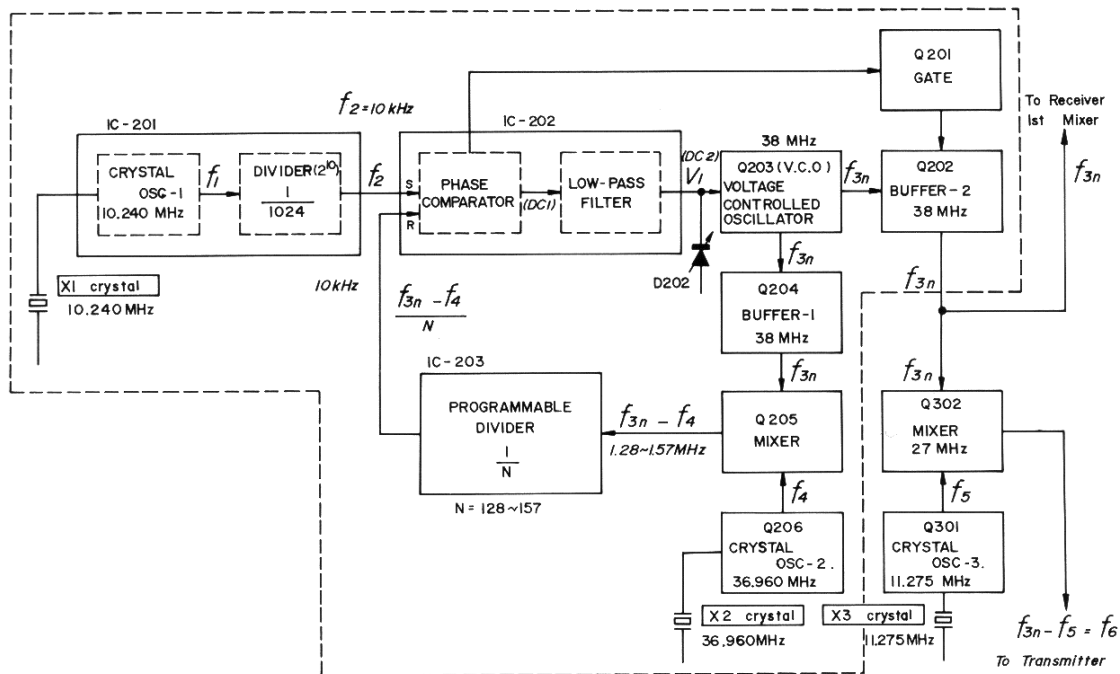

Figure 2 P.L.L. CIRCUIT FREQUENCY SYNTHESIZER
## A DESCRIPTION OF PHASE-LOCKED-LOOP (P.L.L.) CIRCUIT (Figure 2)
the voltage controlled oscillator (or V.C.O.) Q203, the buffer amplifier Q204, the mixer Q205 and the programmable IC-203 as shown in Figure 2.
3) **Frequency Determining (Refer to Figure 2 )**